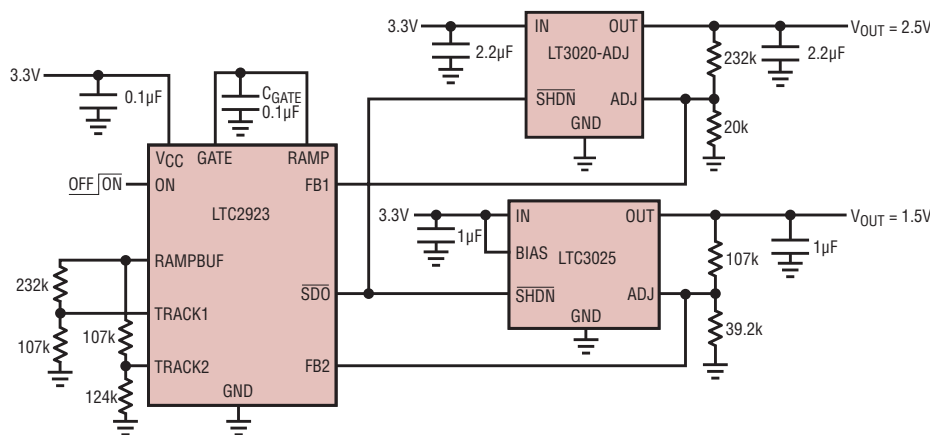

Figure 1. An LTC2923 causes the outputs of the LT3020 and LTC3025 to track during power-up and power-down.
- The LTC3020 is a 100mA low dropout regulator (LDO) that operates with input supply voltages between 1V and 10V. Since its ADJ pin behaves like the feedback pin on most switching regulators, tracking the LTC3020’s output using the LTC2923 is simple. The standard circuits and design procedures shown in the LTC2923 data sheet require no modification when used with the LTC3020 (Figures 1 and 2).
- The LTC3025 is a 300mA monolithic CMOS LDO that regulates input supplies between 0.9V and 5.5V, while a bias supply between 2.5V and 5.5V powers the part. Similar to the LT3020, the LTC3025’s ADJ pin is operationally identical to common switchers. For that reason, the LTC3025 combined with an LTC2923 provides a simple supply tracking solution for loads less than 300mA (Figures 1 and 2).